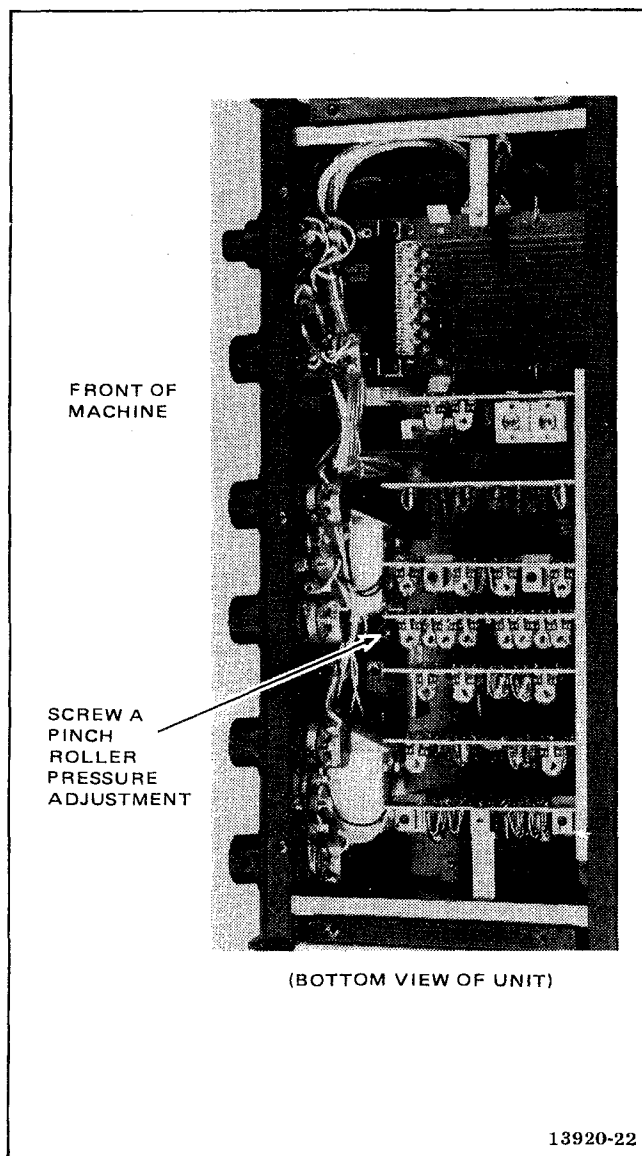

Figure 5-10. Pinch Roller Adjustment Screw Location
- b. Through the bottom of the deck, use a long Philips screwdriver to loosen the screw beneath the solenoid, shown in Figure 5-10.